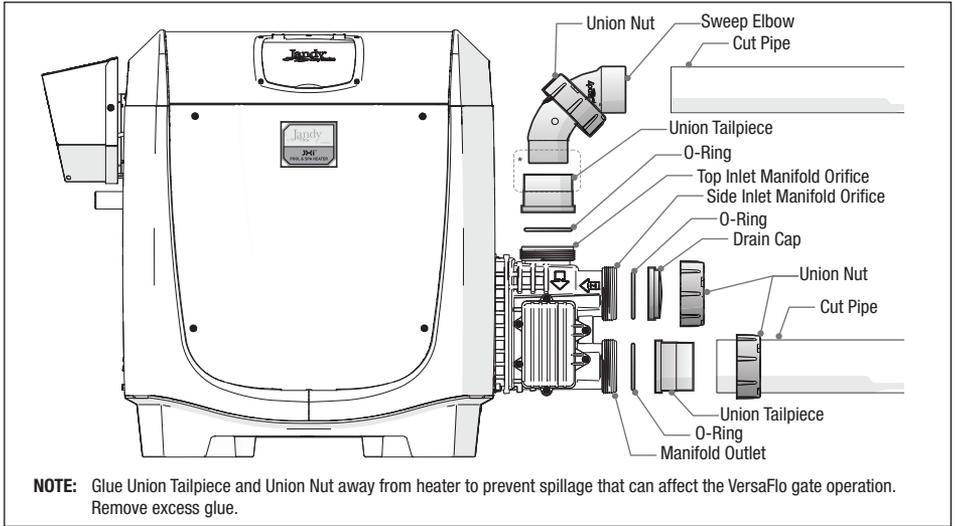

Figure 12. Inlet Piping
- Slide the union nut onto the cut pipe length or sweep elbow. Ensure proper nut orientation with threads directed towards the heater manifold. See *Figure 12*.